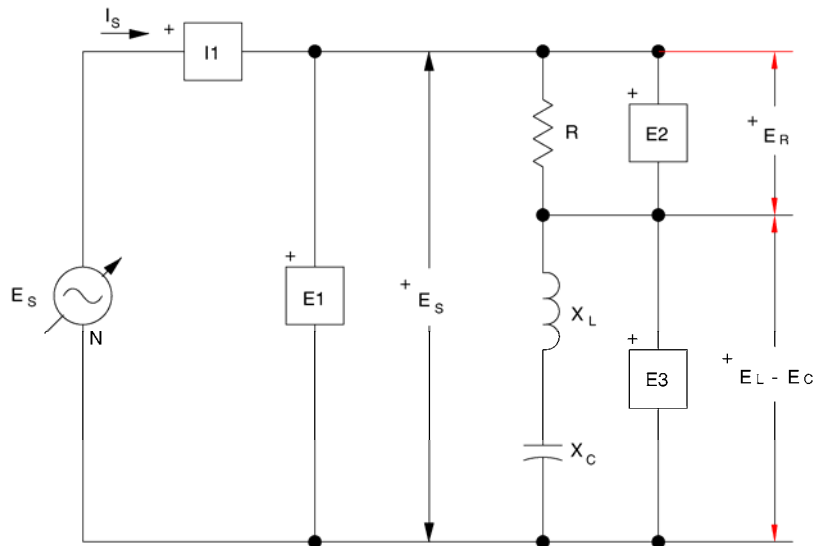

Figure 5-12. Measuring the source voltage in an RLC series circuit.
19. Turn off the Power Supply and reconnect inputs E1, E2, and E3 as shown in Figure 5-12 to measure E_S , E_R , and $E_L - E_C$, respectively. Turn on the Power Supply and display the voltage phasors again.